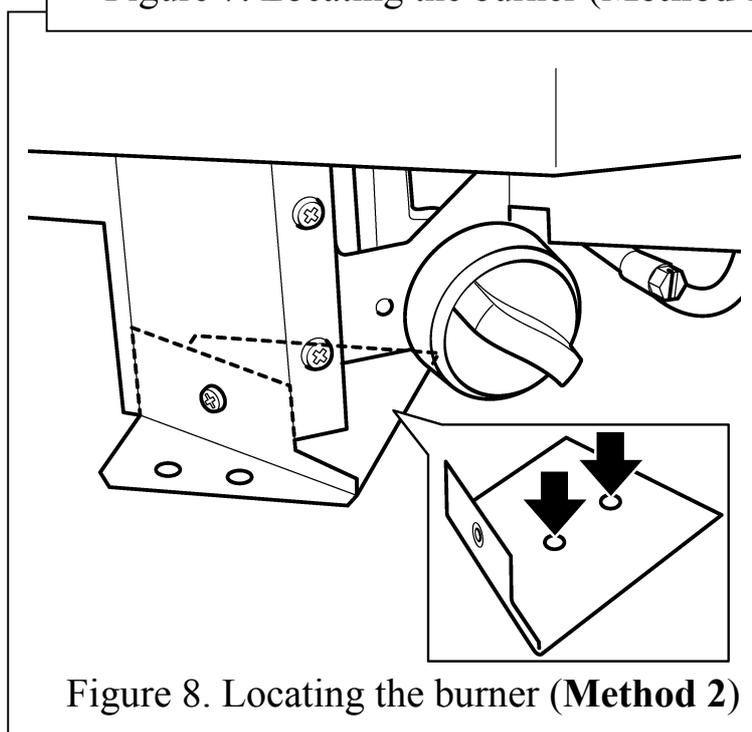

Figure 8. Locating the burner (**Method 2**)
- Place the burner assembly in the position (See figure 8).